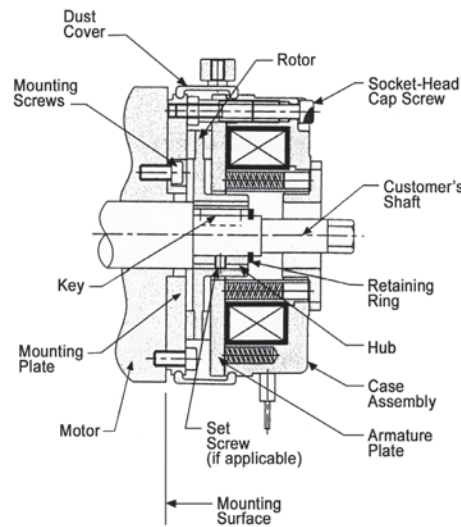

Fig. 2
Install Hub as shown on the Shaft in Fig. 2. Use dimension "N" from the Dimensions Table on page 5. Use the proper key (that fits keyway in hub). Be sure the Hub will have full engagement in the Rotor when mounted to the Shaft. (Tighten Set Screw if applicable). The Hub must be securely attached to the Shaft with no movement.
3. The Manual Release provides a means of releasing the brake by hand (normally done with the application of power or voltage). The Manual Release is attached to the Case and the Armature Plate. Excessive wear may make it necessary to readjust the Manual Release Screws to allow the proper function. The Rotor and Shaft will rotate freely with a movement of 8-10° of the Manual Release (See Fig. 2). Adjust the two Manual Release Screws and Hex Nuts as necessary.